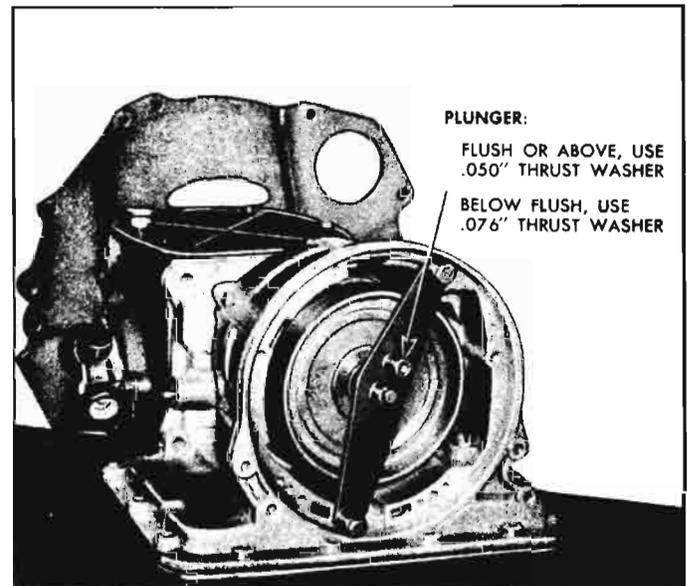

Fig. 6E-51—Gauging Clutch Drum Thrust Washer with J-8371
- a. Insert the pilot of J-8371 into bore of clutch drum and secure J-8371 to case with two front pump mounting bolts (fig. 6E-51). Tighten bolts fully to compress pilot spring.